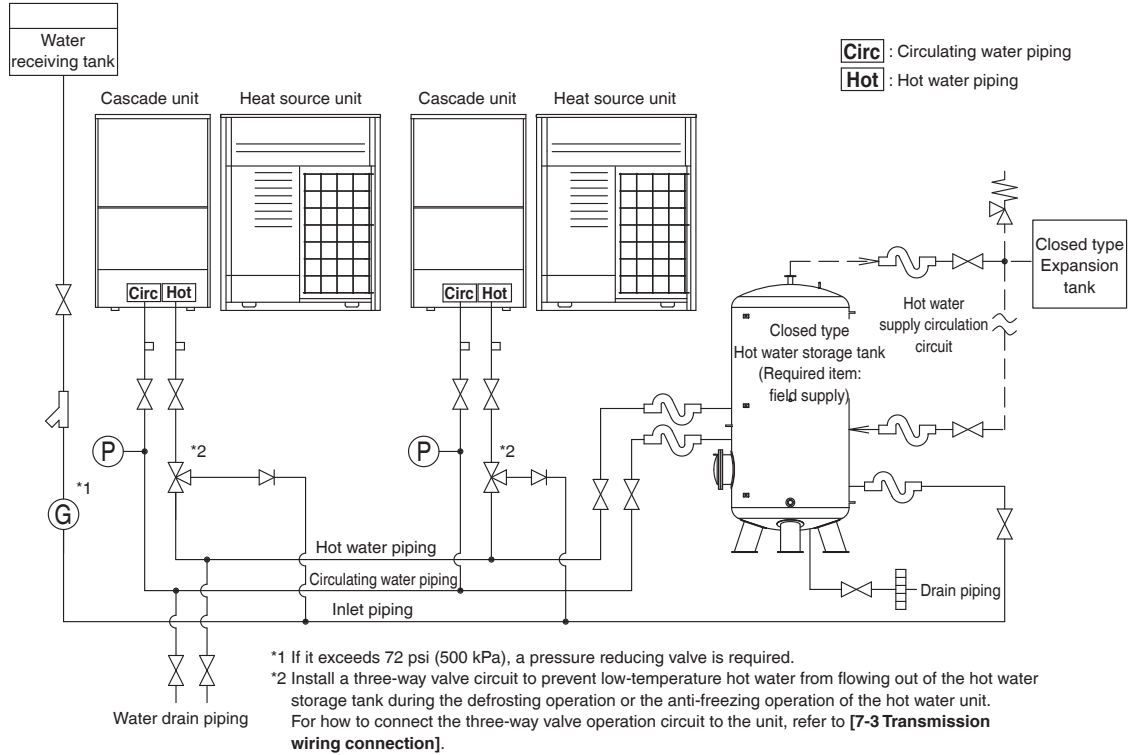

Fig. 14
- Fig. 14 shows examples of installation when 2 heat pump hot water units are connected.